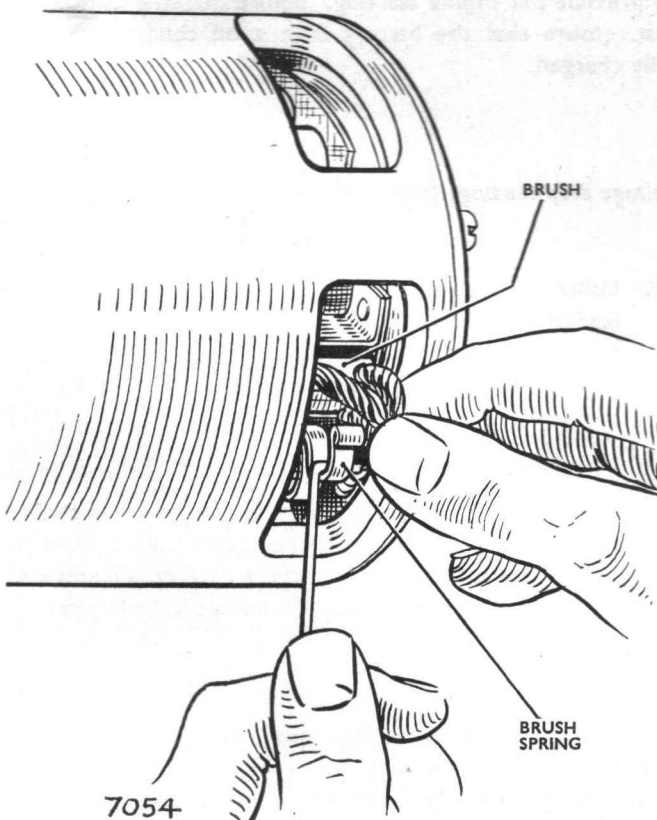

Fig. 14. Checking free movement of carbon brushes
1. Check that the brushes move freely in their holders by holding back the brush springs and pulling gently on the flexible connectors. (See Fig. 14). If movement is sluggish, remove the brush from its holder